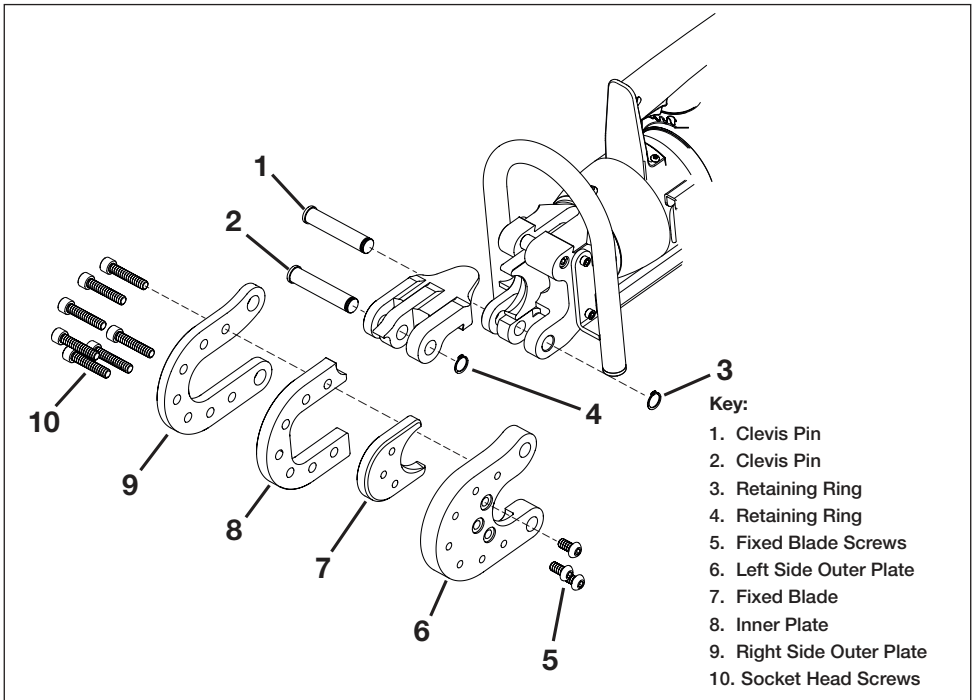

Figure 12, Fixed Blade Replacement
Replace the fixed blade as described in the following steps. Refer to Figure 12, items 1, 2 and 3.
5. Remove retaining rings (Figure 12, items 3 and 4). Remove clevis pins (Figure 12, items 1 and 2) and cutting head (Figure 12, items 5 - 10).
6. Remove seven socket head screws (Figure 12, item 10).
7. Separate left side outer plate (Figure 12, item 6), inner plate (Figure 12, item 8) and right side outer plate (Figure 12, item 9).
8. Remove three fixed blade screws (Figure 12, item 5) and remove fixed blade (Figure 12, item 7).
9. Install new fixed blade (Figure 12, item 7) onto left side outer plate (Figure 12, item 6) with three fixed blade screws (Figure 12, item 5) and torque to 37 ft-lb [50 Nm]. Also apply Loctite 243 or equivalent.
10. Assemble the left side outer plate (Figure 12, item 6), inner plate (Figure 12, item 8) and right side outer plate (Figure 12, item 9) using seven socket head screws (Figure 12, item 10). Torque to 37 ft-lb [50 Nm]. Also apply Loctite 243 or equivalent.
11. Attach latch to cutting head using clevis pin (Figure 12, item 2) and retaining ring (Figure 12, item 4).
12. Attach cutting head (Figure 12, items 5-10) to tool body using clevis pin (Figure 12, item 1) and retaining ring (Figure 12, item 3).